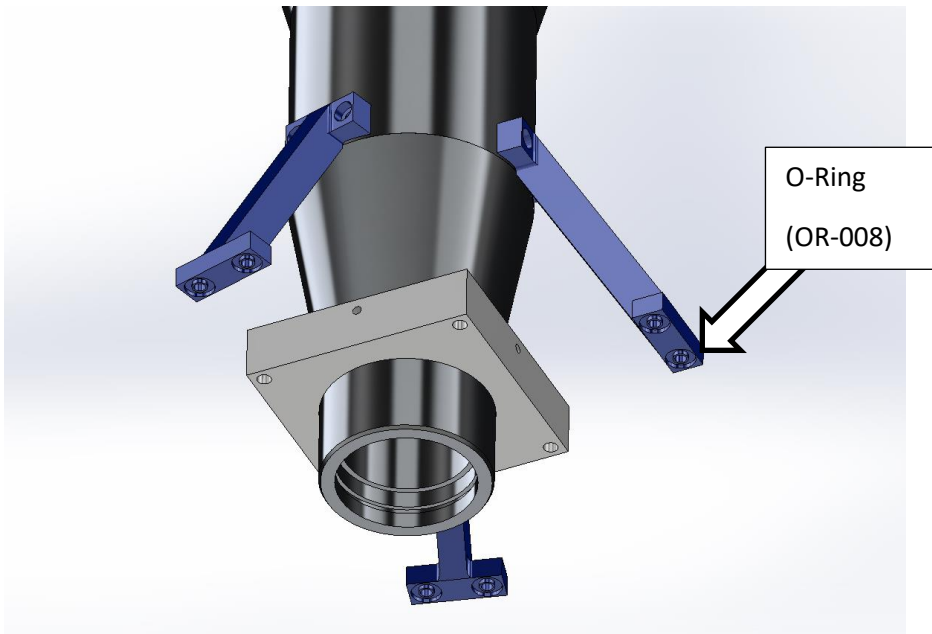

Figure 46: O-ring underneath Screw hole. There are six O-rings in total.
3. Ensure six O-rings (OR-008) are installed under the FM-120's three legs (two apiece; see Figure 46). If any O-rings have fallen off, replace them with the extras provided.